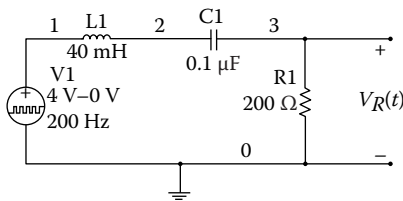

FIGURE 3.12
For the RLC circuit shown in Figure 3.12, the input square wave has a frequency of 200 Hz, the peak-to-peak value of the square wave is 0 to 4 V with offset voltage of 2 V. (1) Use the Analog Discovery board to obtain the voltage across the resistor. (2) Determine the damping factor and damped frequency. (3) Compare the measured damping factor and damped frequency with the theoretically-calculated values, and (4) when $R=2000\ \Omega$, $L=40\text{ mH}$, and $C=0.1\ \mu\text{F}$, determine the type of transient response of the output waveform.
Use a breadboard to build the circuit shown in Figure 3.12 with $R_1=200\ \Omega$, $L_1=40.0\text{ mH}$, and $C_1=0.1\ \mu\text{F}$. Connect the AWG1 (yellow wire) to node 1 of the circuit. Also, connect the scope channel 1 positive (orange wire) to
Calculated and Measured Values of the Underdamped Response of Figure 3.12